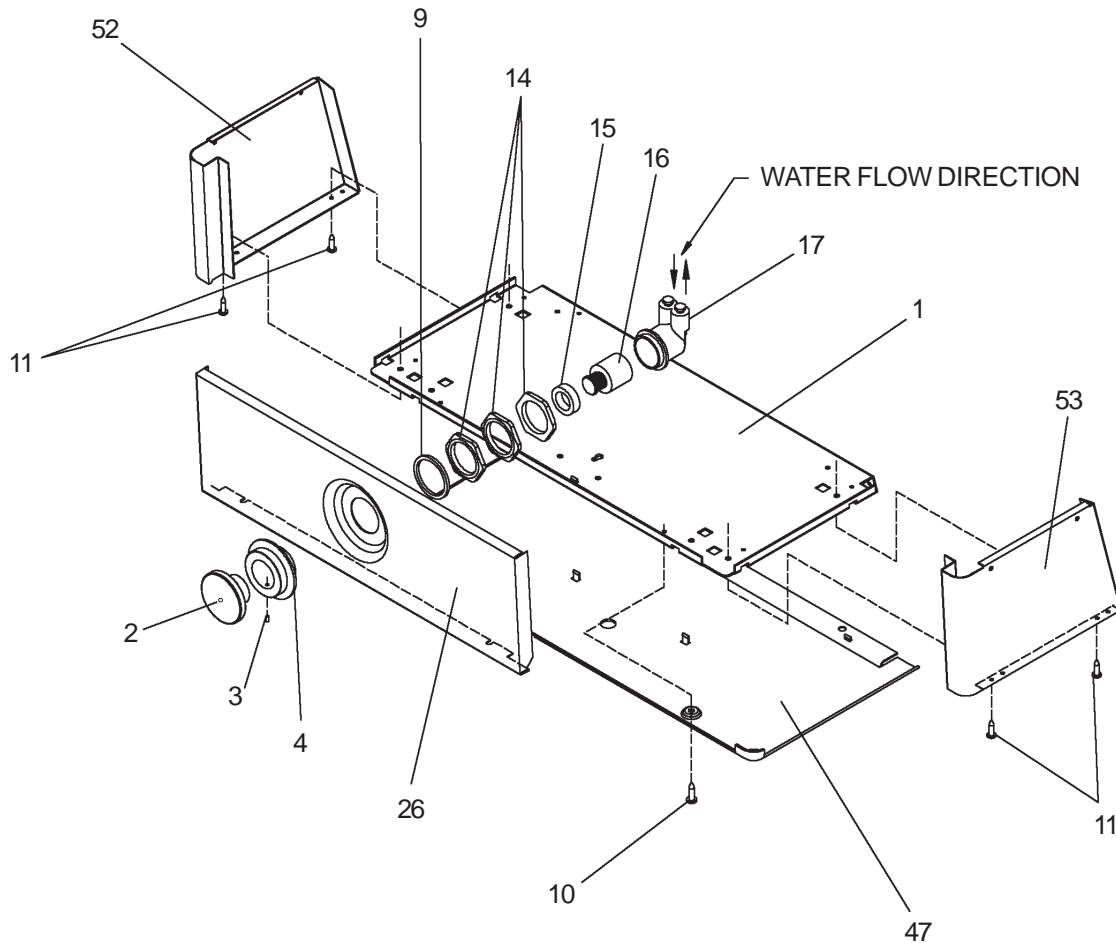

FIG. 3
SEE FIG. 3
- 8) Stream height is factory set at 35 PSI. If supply pressure varies greatly from this, adjust the screw on regulator item 16 by using a small screwdriver through the small hole in the push button item 2 (See Fig.3). Clockwise adjustment will raise stream and counter-clockwise adjustment will lower stream. For best adjustment, stream should hit basin approximately 6-1/2" (165mm) from bubbler.